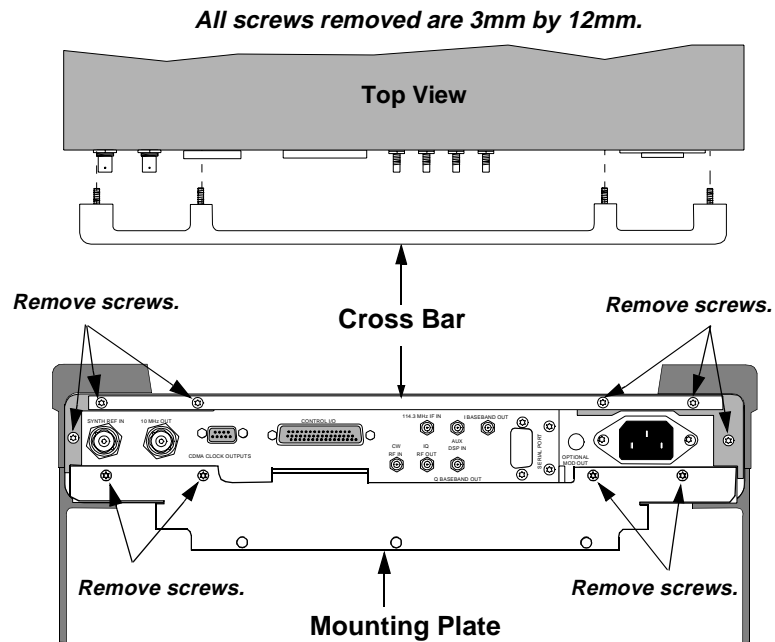

Figure 14 Removing the Cross Bar and Mounting Plate
3. Remove the cross bar and mounting plate from the adapter by removing the screws shown in figure 14.